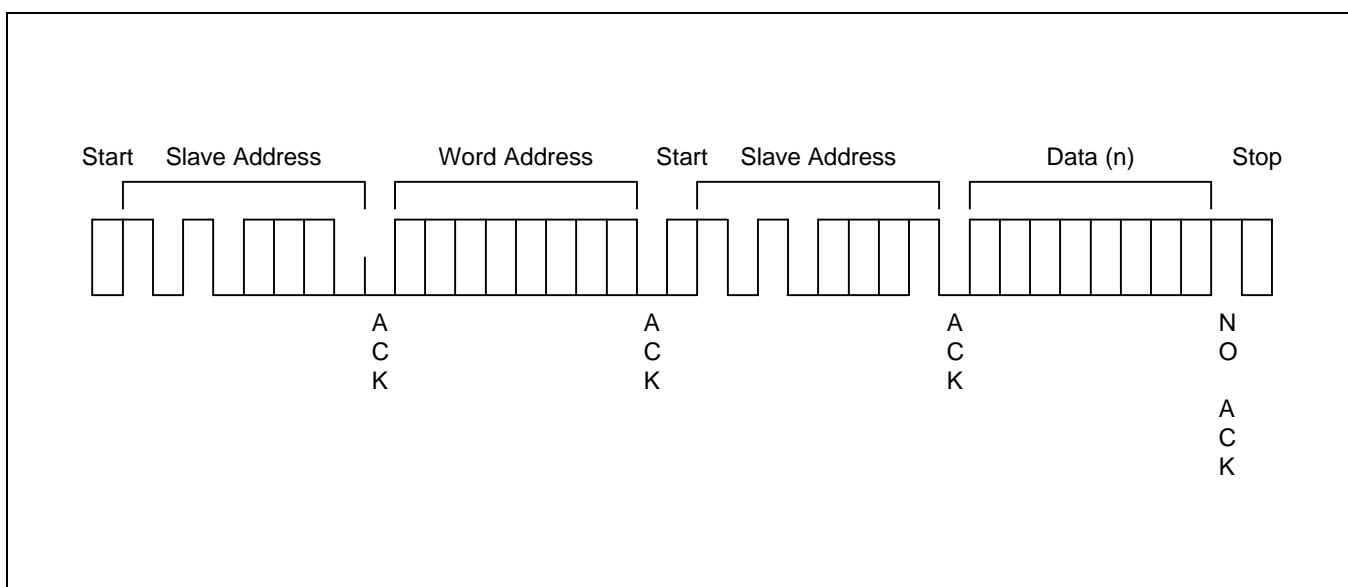

Figure 3-13. Random Address Byte Read Operation
5. In response, the KS24C011/021/041/081 stops transmitting data and reverts to its stand-by mode (see Figure 3-13).